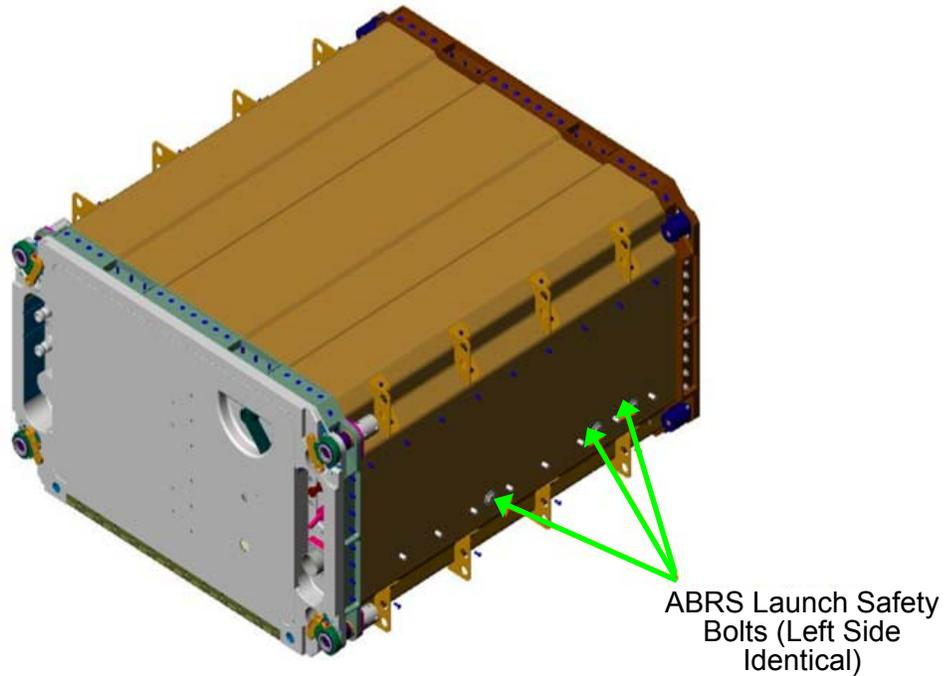

Figure 4.- ABRs Launch Safety Bolts.
- 2.3 Remove Launch Safety Bolts (six) three from each side, roll up in gray tape and place in trash (3/8" Socket, 1/4" Drive, Ratchet 1/4" Drive). Refer to Figure 4.